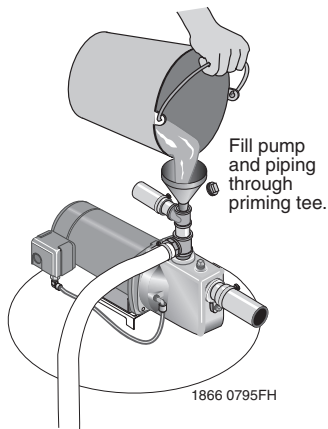

Figure 9: Prime the Pump
1. Remove the priming plug from the priming tee and fill the pump. Fill all piping between the pump and the well and make sure that all piping in the well is full. If you have also installed a priming tee in the suction piping, remove the plug from the tee and fill the suction piping. See Figure 9.